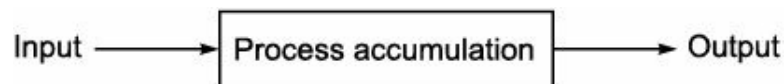

FIGURE 3.1 General block diagram of material balance.
5. The process of operations for material balance should be represented by a suitable block diagram. A simple block diagram of a unit operation is shown in Figure 3.1.